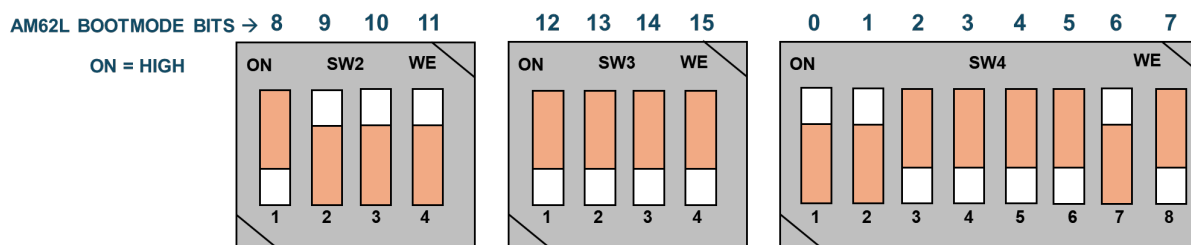

Figure 2-10. Example Full Pincount Bootmode (SD Card Boot)
- Place the EVM boot switch selectors (SW4, SW3 and SW2) into selected bootmode. Example Full-Pincount bootmode for SD card is shown in Figure 2-10.